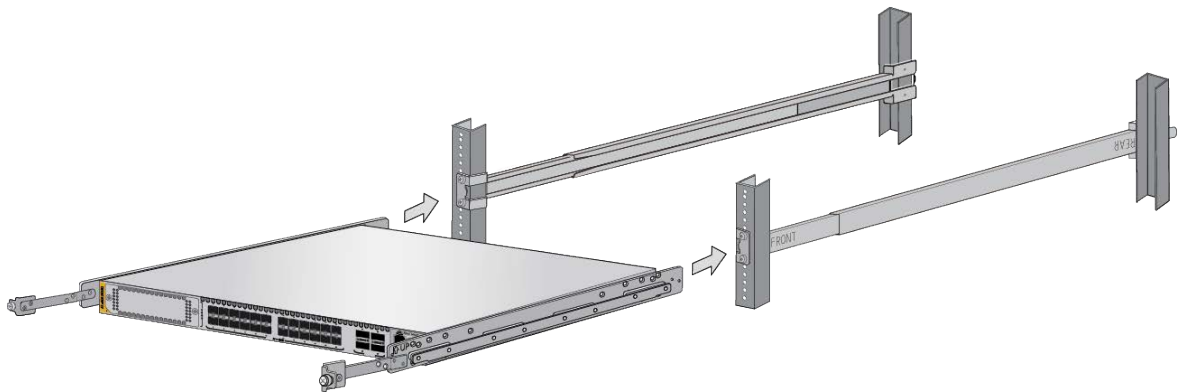

Figure 119. Sliding the Inner Rails on the Switch into the Outer Rails
1. Install the switch in the sliding rack by sliding the inner rails into the outer rail grooves. Refer to Figure 119.